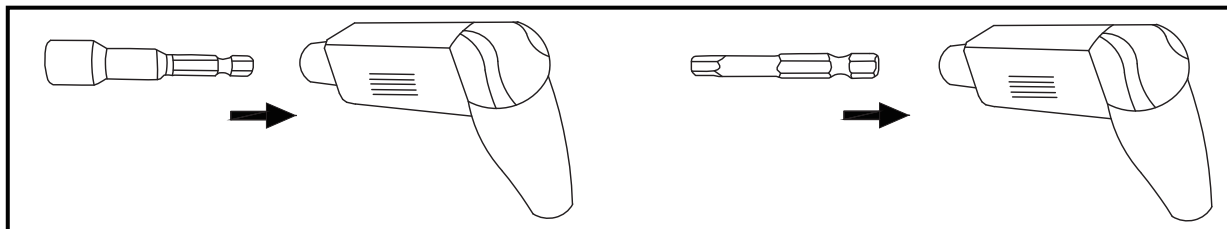

Fig 3
- 1.3. Connect the Top Cover (B) to the Post (A) with Bolt (AA), as seen in Fig 3.